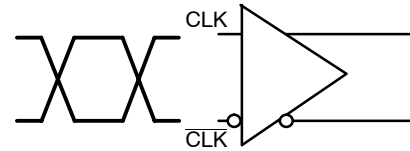

Figure 14. Differential Inputs Driven Differentially
**DIFFERENTIAL INPUTS DRIVEN DIFFERENTIALLY** (See Figures 14 and 16)